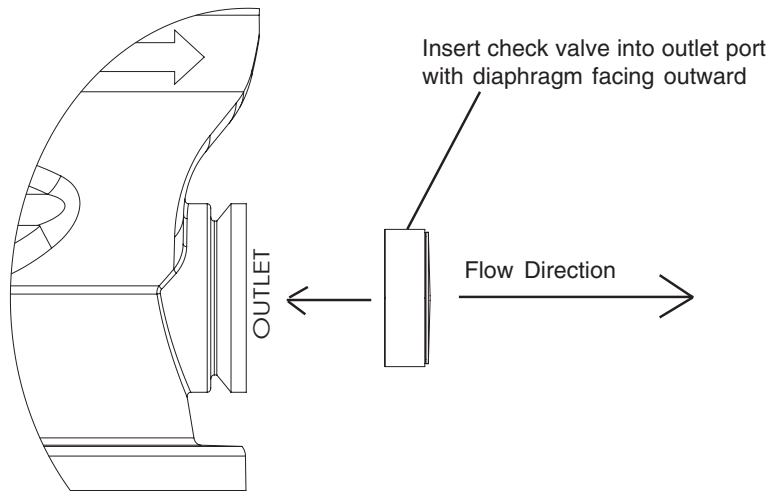

Figure 9.
3. Insert the check valve into the outlet port of the filter, making sure that the rubber diaphragm is facing outward. See Figure 9.